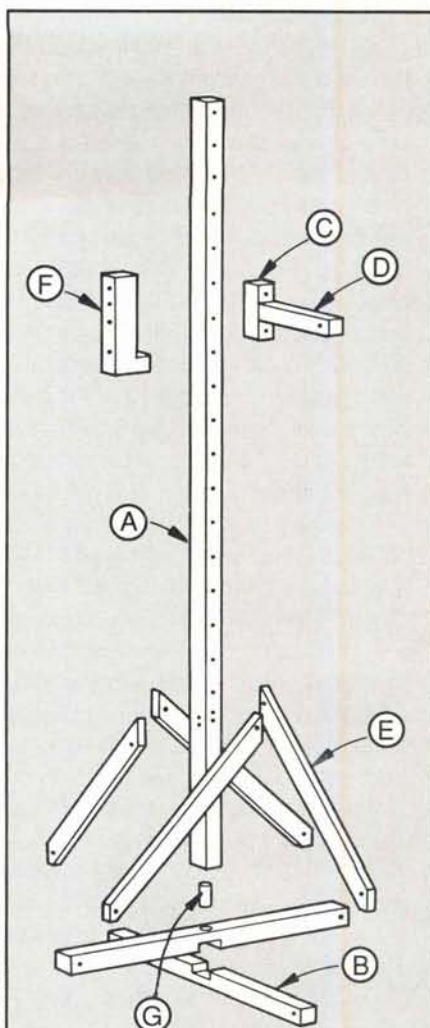

Figure 1. Stand Diagram
Make the half lap joints required in the two base pieces (Figure 1). Round the edges with a router now or after assembly, but an initial sanding should be done before assembly. To make the stand more storeable, glue a 2" length of 3/4" dowel (G) into the base. I fits into a 3/4" diameter, 1" deep hole drilled in the bottom end of the long upright. By using bolts to hold the parts of the stand together, you can disassemble it easily.